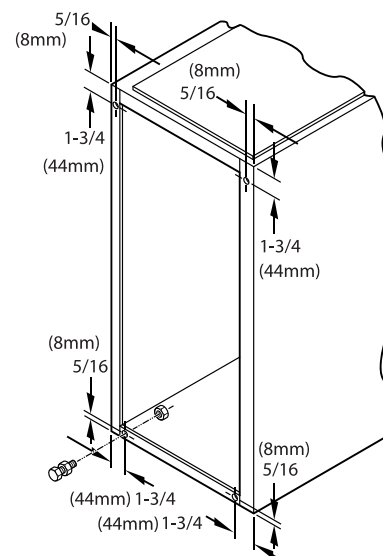

Fig. 10 – Leveling Legs
In upflow position with side return inlet(s), leveling legs may be used, see Fig. 10. Install field-supplied, 5/16 X 1-1/2 in. (8 X 38 mm) (max) corrosion-resistant machine bolts, washers and nuts.
1. Position furnace on its back. Locate and drill a hole in each bottom corner of furnace, see Fig. 10.